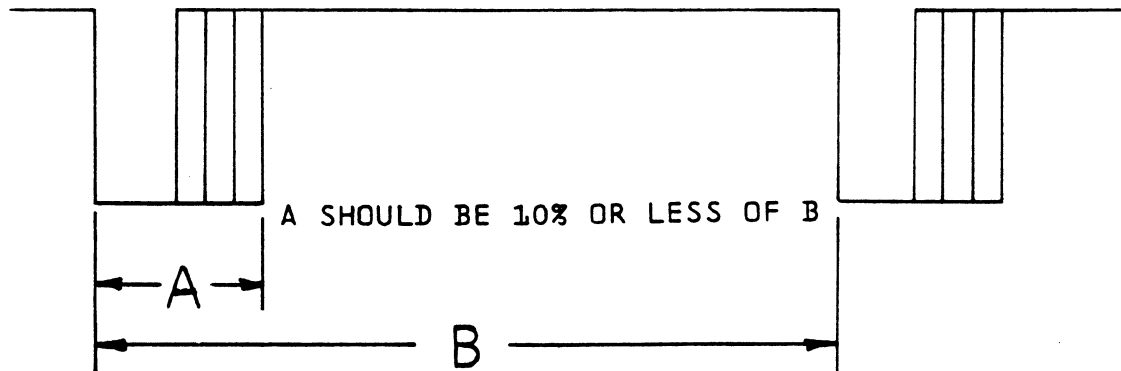

Figure 5-8. Skew Pulse at TP10
- c. Proper waveform is shown in Figure 5-8.
- f. Adjust azimuth screws (Figure 5-3) on head mounting plate so that outputs of all tracks, as monitored at TP10, fall within 10% or less of byte-to-byte period. (See Figure 5-8.) Outer azimuth screw bears against transport mounting plate and pivots head assembly outward. Inner azimuth screw threads into transport mounting plate and pulls head assembly inward. Inner screw also serves to lock adjustment.